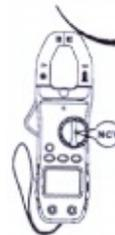

Fig.12
(1) Turn the rotary function switch to "NCV" position. When the testing circuit is placed above the meter. When the meter sensor detects voltage, the indicator lights on and the buzzer alarms (fig.12).
(2) There are 5 ranges for measuring of NCV: 0-50mV, 50-100mV, 100-150mV, 150-200mV, 250mV. For measuring results of each ranges, "LO", "-", "---", "----", "-----", appears on LCD respectively.